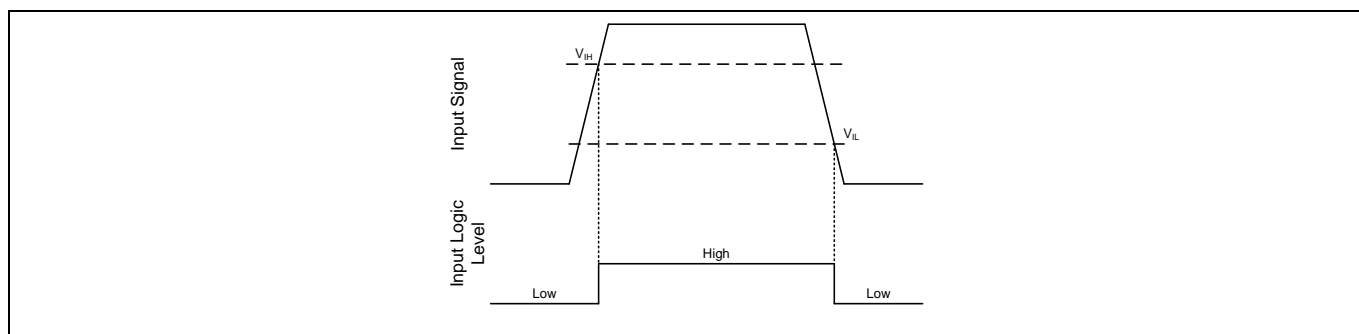

Figure 9 HIN & LIN input thresholds
The input pins are based on a TTL and CMOS compatible input-threshold logic that is independent of the V_{CC} supply voltage. With typical high threshold (V_{IH}) of 2.1 V and typical low threshold (V_{IL}) of 0.9 V, along with very little temperature variation as summarized in Figure 9, the input pins are conveniently driven with logic level PWM control signals derived from 3.3 V and 5 V digital power-controller devices. Wider hysteresis (typically 0.9 V) offers enhanced noise immunity compared to traditional TTL logic implementations, where the hysteresis is typically less than 0.5 V. 2ED2106 (4) S06F (J) also features tight control of the input pin threshold voltage levels which eases system design considerations and ensures stable operation across temperature. The 2ED2106 (4) S06F (J) features floating input protection wherein if any of the input pin is left floating, the output of the corresponding stage is held in the low state. This is achieved using pull-down resistors on all the input pins (HIN, LIN) as shown in the block diagram. The 2ED2106 (4) S06F (J) has input pins that are capable of sustaining voltages higher than the bias voltage applied on the V_{CC} pin of the device.